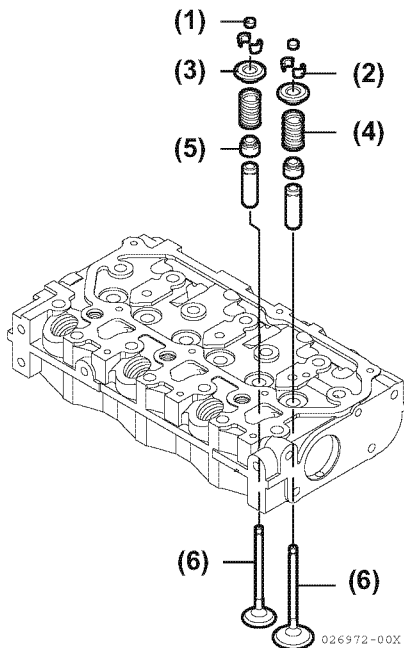

Figure 6-9
2. Remove the valve stem cap (**Figure 6-9, (1)**) and keep with the valve it was installed on.
4. Remove the valve keepers (**Figure 6-9, (2)**).
6. Remove the spring retainer (**Figure 6-9, (3)**) and valve spring (**Figure 6-9, (4)**).
8. Turn the cylinder head so the exhaust port side faces down. Remove the intake and exhaust valves (**Figure 6-9, (6)**) from the cylinder head.
9. Remove the valve stem seals (**Figure 6-9, (5)**).